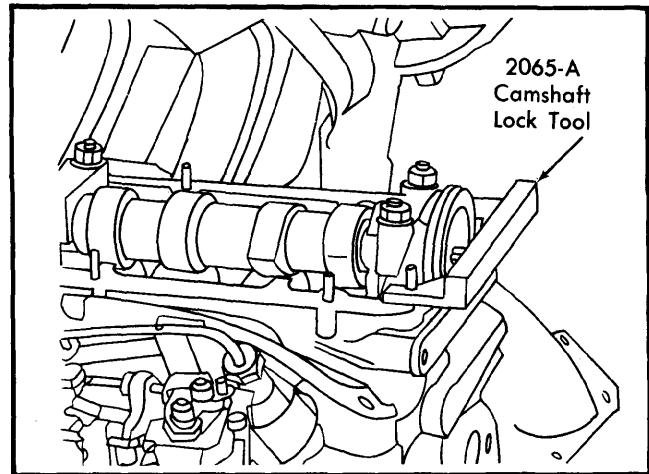

Fig. 9 Camshaft Locking Tool Installation (Volkswagen Shown)
3) For Volkswagen vehicles, turn engine to TDC on No. 1 cylinder. Lock camshaft with special setting bar (2065). See Fig. 9. Remove drive belt. Proceed to step 4).